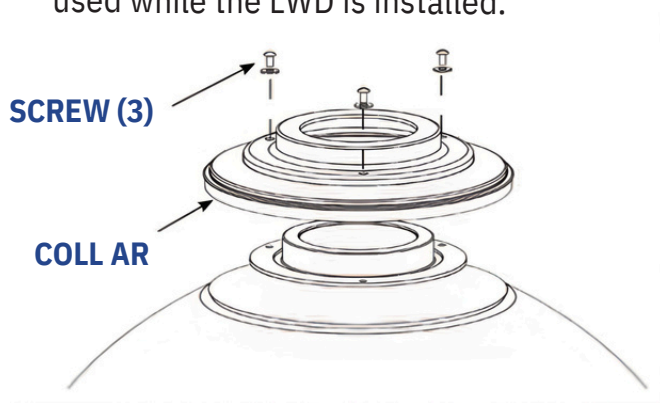

FIGURE 1
2. Remove 3 flat-head mounting screws in the base of the plastic trim collar (Figure 1) around the neck of the Dewar, remove the collar and discard or save for later. It is not used while the LWD is installed.